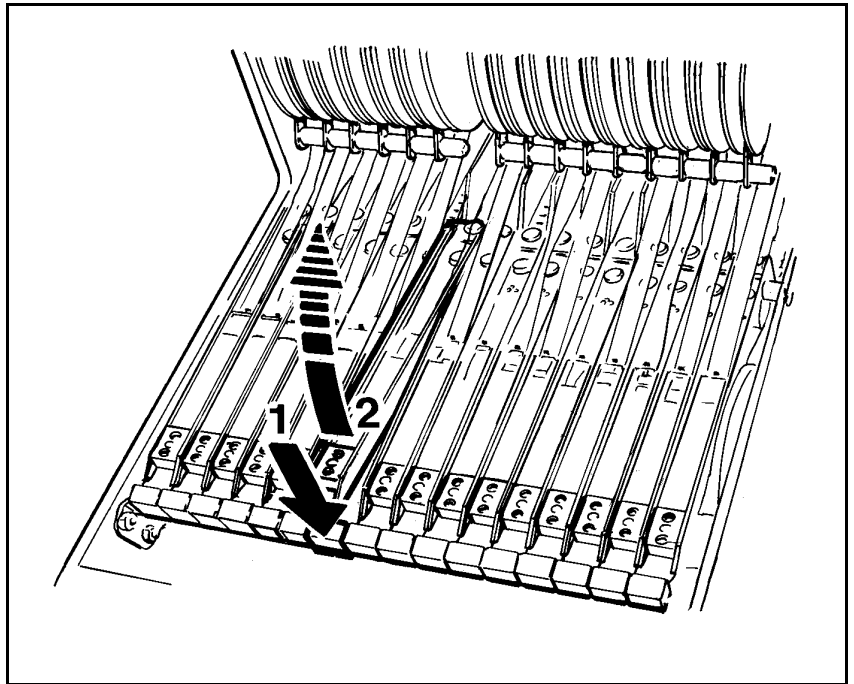

Figure 5-27. Lifting up the pick-up rail.
4. Press the pick-up rail toggle ('1' in Figure 5-27).
5. Lift up the pick-up rail (2).